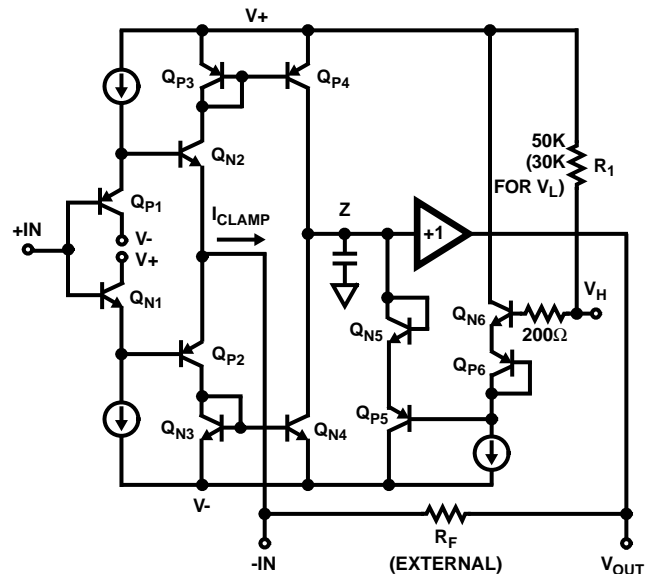

FIGURE 1. HFA1130 SIMPLIFIED V_H CLAMP CIRCUITRY
Figure 1 shows a simplified schematic of the HFA1130 input stage, and the high clamp (V_H) circuitry. As with all current feedback amplifiers, there is a unity gain buffer ($Q_{X1} - Q_{X2}$) between the positive and negative inputs. This buffer forces $-IN$ to track $+IN$, and sets up a slewing current of $(V_{-IN} - V_{OUT})/R_F$. This current is mirrored onto the high impedance node (Z) by $Q_{X3} - Q_{X4}$, where it is converted to a voltage and fed to the output via another unity gain buffer. If no clamping is utilized, the high impedance node may swing within the limits defined by Q_{P4} and Q_{N4} . Note that when the output reaches its quiescent value, the current flowing through $-IN$ is reduced to only that small current ($-I_{BIAS}$) required to keep the output at the final voltage.
The clamped output voltage will not be exactly equal to the voltage applied to V_H or V_L . Offset errors, mostly due to V_{BE} mismatches, necessitate a clamp accuracy parameter which is found in the device specifications. Clamp accuracy is a function of the clamping conditions. Referring again to Figure 1, it can be seen that one component of clamp accuracy is the V_{BE} mismatch between the Q_{X6} transistors, and the Q_{X5} transistors. If the transistors always ran at the same current level there would be no V_{BE} mismatch, and no contribution to the inaccuracy. The Q_{X6} transistors are biased at a constant current, but as described earlier, the current through Q_{X5} is equivalent to I_{CLAMP} . V_{BE} increases as I_{CLAMP} increases, causing the clamped output voltage to increase as well. I_{CLAMP} is a function of the overdrive level ($V_{-IN} - V_{OUTCLAMPED}$) and R_F , so clamp accuracy degrades as the overdrive increases, or as R_F decreases. As an example, the specified accuracy of $\pm 60mV$ for a 2X overdrive with $R_F = 510\Omega$ degrades to $\pm 220mV$ for $R_F = 240\Omega$ at the same overdrive, or to $\pm 250mV$ for a 3X overdrive with $R_F = 510\Omega$.